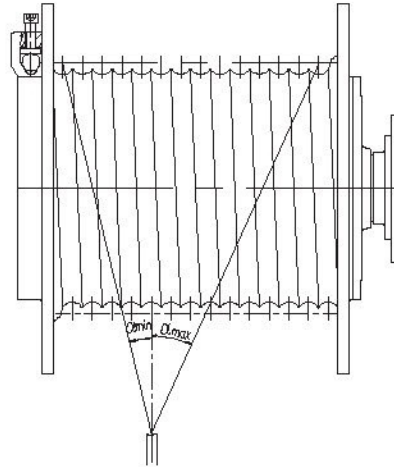

Figure 4
4.3 To achieve acceptable rope winding, the deflection angle α must be kept in the allowable value (figure 4)